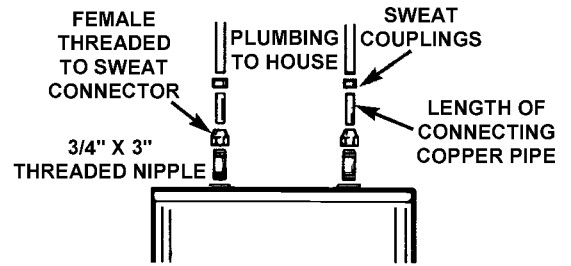

FIGURE 9.
3. Using the diagram, map out the installation. Screw the nipples into the tank and the fittings onto the nipples, hand tight, see Figure 9. Then measure and cut the copper tubing. Remove the nipples and fittings, then go to the next step.
6. The 3/4" female threaded to sweat connectors and two pieces of copper pipe to connect the water heater to the house plumbing should be cleaned, fluxed and assembled, see Figure 9. **Do not screw the connectors into the nipples in the tank before soldering.**